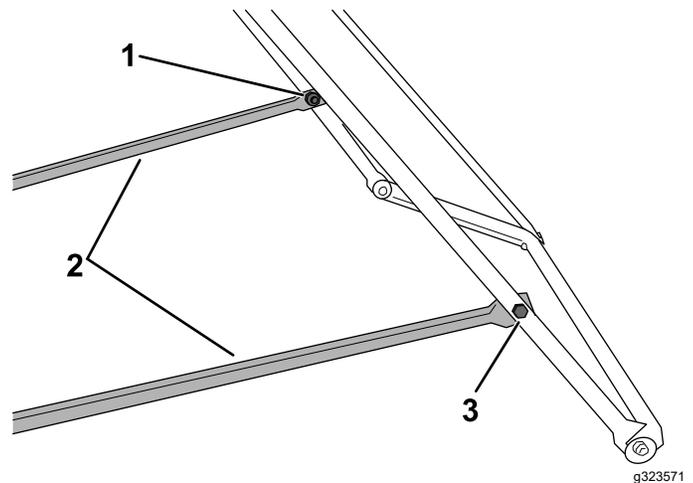

Figure 8
4. Install the 2 rear posts to the side frame tubes (Figure 8).